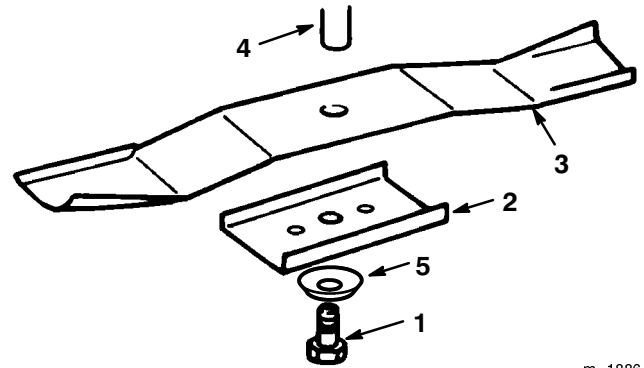

Figure 31
3. Remove the bolt (5/8 in. wrench), curved washer, retainer, and blade (Fig. 31). A block of wood may be wedged between the blade and the mower to lock the blade when you are removing the bolt.
1. Install the blade, blade retainer, curved washer (cupped side toward blade), and the blade bolt (Fig. 31).